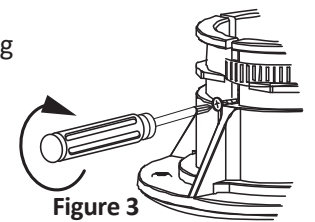

Figure 3
3. Use the supplied self-tapping screws to secure the venting to the intake and exhaust ports as shown in the image on the right. (Figure 3)